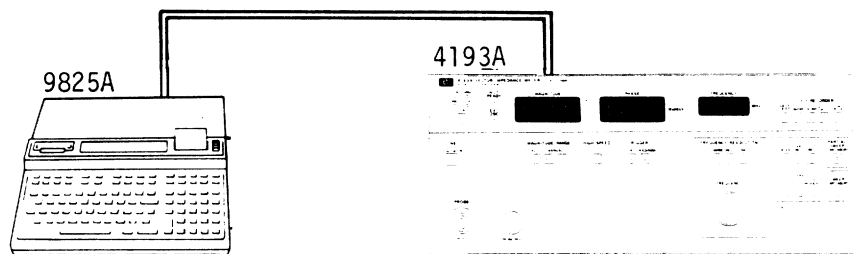

Figure 4-7. HP-IB Interface Test Setup.
- b. Connect the 98034A between the 9825A and 4193A as shown in Figure 4-7, and install the I/O ROM's in the ROM slots.